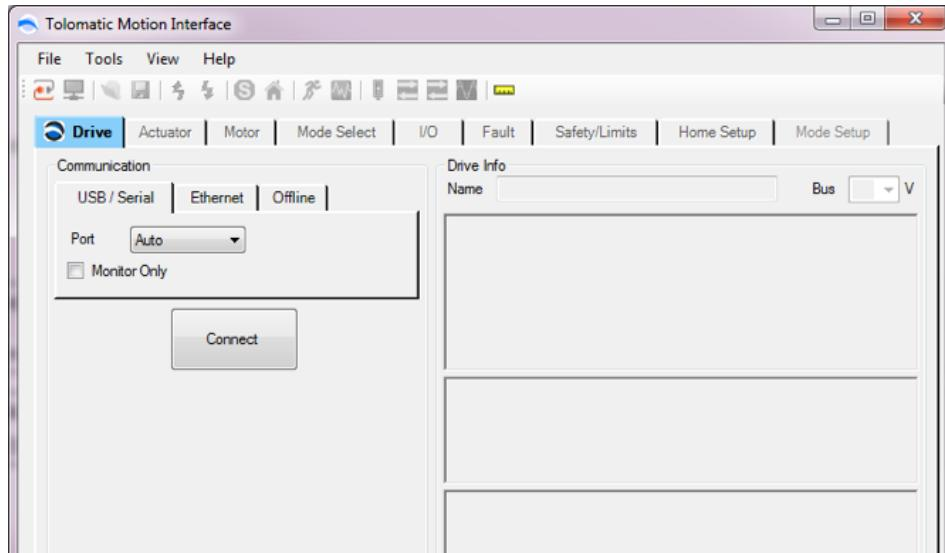

Figure 5-1: Drive Tab Showing ACS Drive Disconnected
- After the User Units have been selected on initial startup, and from then on once the TMI is launched, the software will automatically default to the Drive tab shown in Figure 5-1 below.